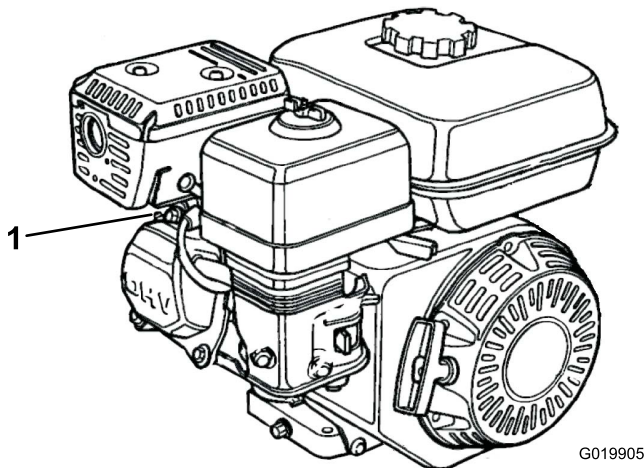

Figure 17
1. Disconnect the spark-plug wire from the spark plug (Figure 17).